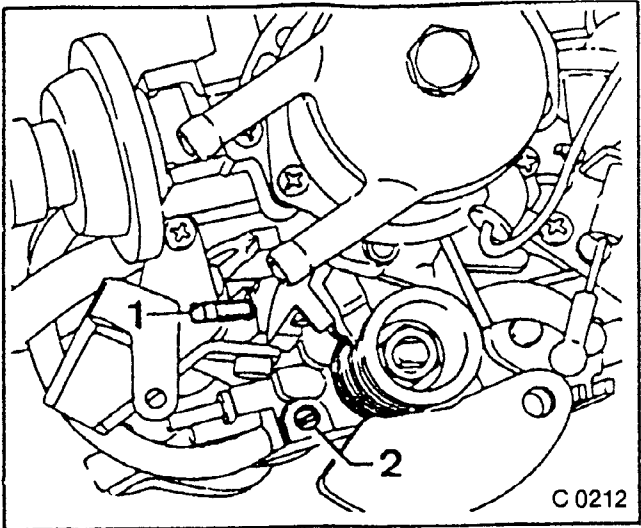

Fig. 192
- 1. Idle speed at adjusting screw (1).
- 2. CO content in exhaust at mixture adjusting screw (2) — see fig. 192.